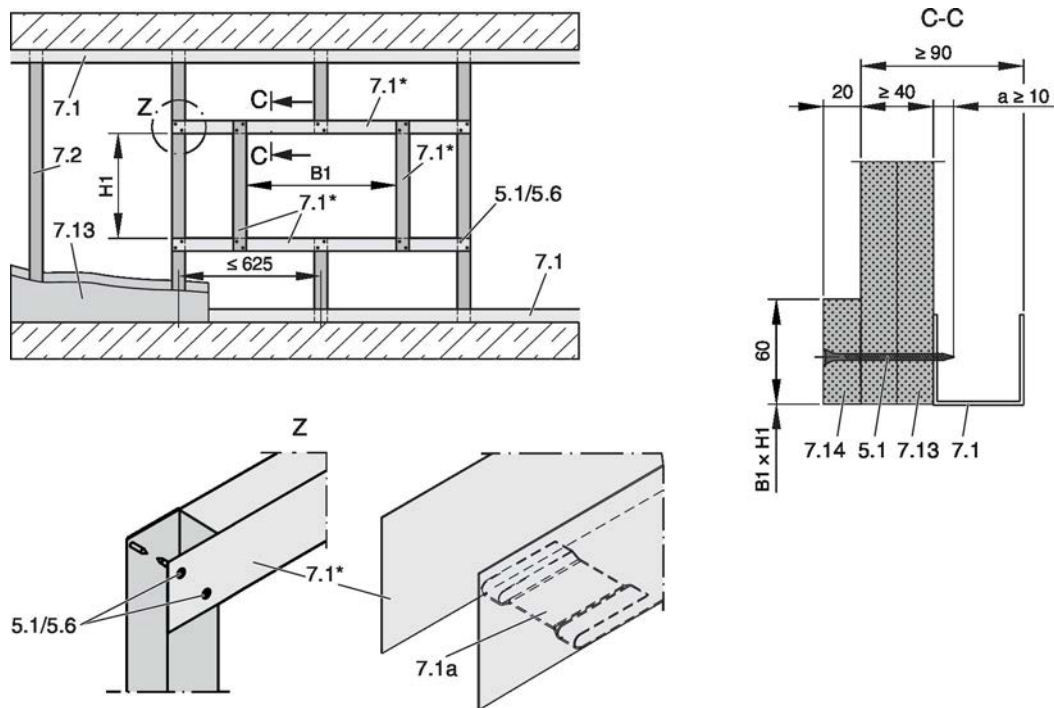

Fig. 56: Shaft walls with metal support structure and cladding on one side
1. ▶ Erect the lightweight partition wall according to the manufacturer's instructions and create an installation opening with reinforcing board and trim panels if necessary (according to installation details) Fig. 56.
1. ▶ Erect the lightweight partition wall according to the manufacturer's instructions and create an installation opening with a reinforcing board Fig. 56